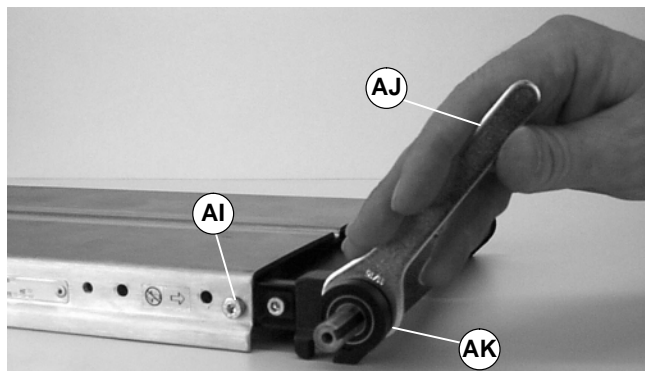

Figure 29
- For 10” (254 mm), 12” (305 mm) or 18” (457 mm) wide conveyors, use the narrow-headed 11/16” wrench (part # 807-1043) (AJ of Figure 29) to remove the outboard bearing (AK).
- Remove screw (AI).